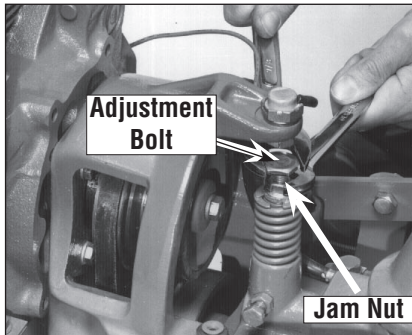

**Figure 5-27: Hold bolt steady while loosening or tightening jam nut.**
2. On left side of tiller, put a 1/2" wrench on the plunger retaining bolt and another 1/2" wrench on the jam nut next to it (Figure 5-27). While holding the bolt steady, loosen the jam nut (counterclockwise) until it touches the bolt head.
8. Hold the plunger retaining bolt steady with a wrench while tightening the jam nut against the side of the plunger housing (Figure 5-27).